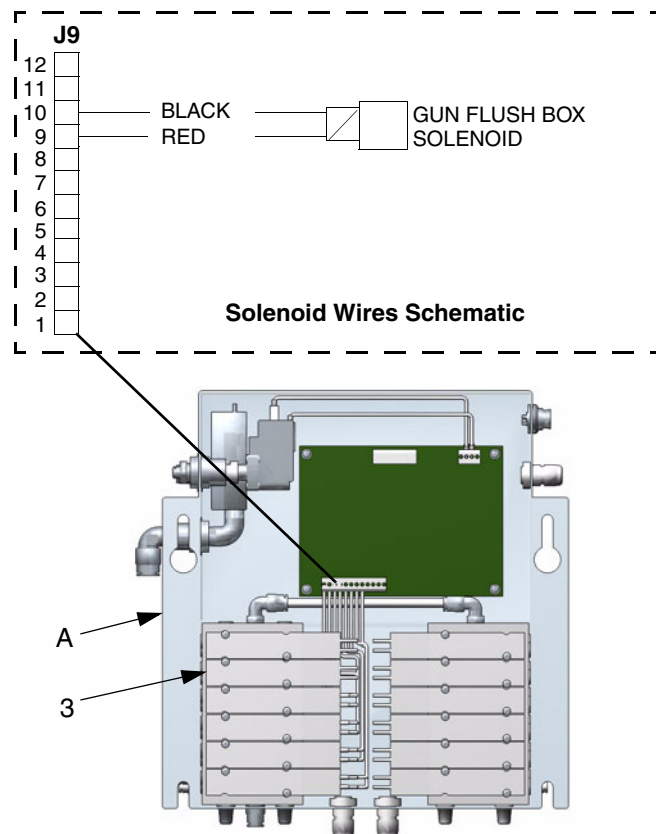

FIG. 1
2. Remove Smart Fluid Panel (A) cover.
3. Remove blank plate at gun flush box solenoid (3) location, and install the solenoid valve (3).
4. Connect solenoid wires to terminals as shown in FIG. 1.